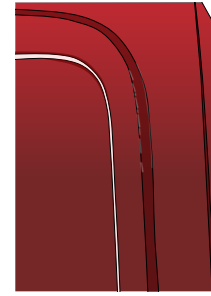

Figure 17
- ▶ Heat the uncut hollow area to a temperature ranging from 30 °C to 40 °C (from 86 °F to 104 °F) and use your finger to go into the hollow and press down the adhesive. (FIG. 17)